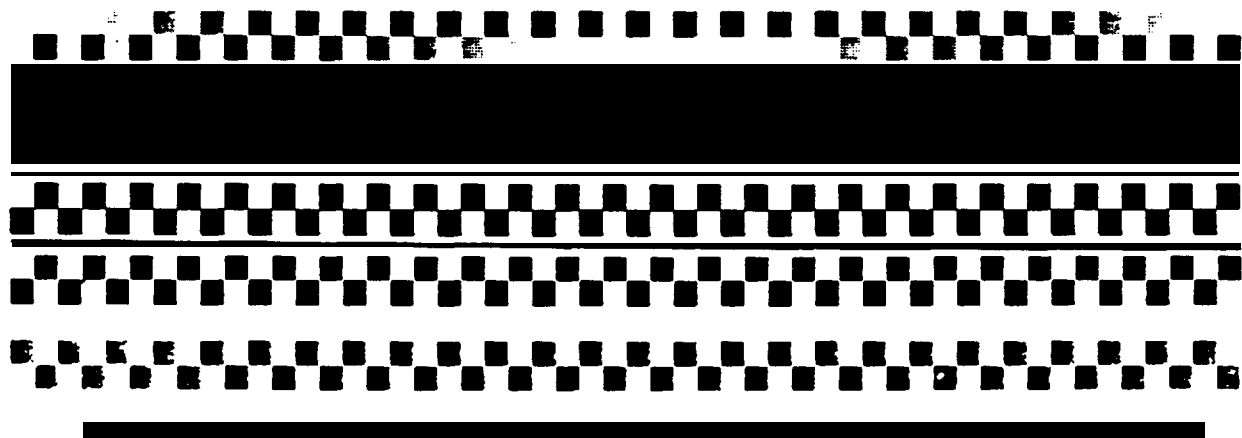

Figure 1
1. To print the test pattern shown in Figure 1, enter the initial maintenance mode. Press the "START/COPY" key 9 times and then press the "FINE/PHOTO" key one time.